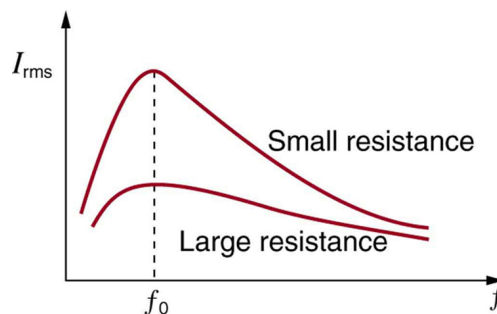

Figure 2: A resonance curve for an RLC circuit.
Answer the questions below Fig. 2.
2. Your graph should resemble Fig. 2. Is this the case?